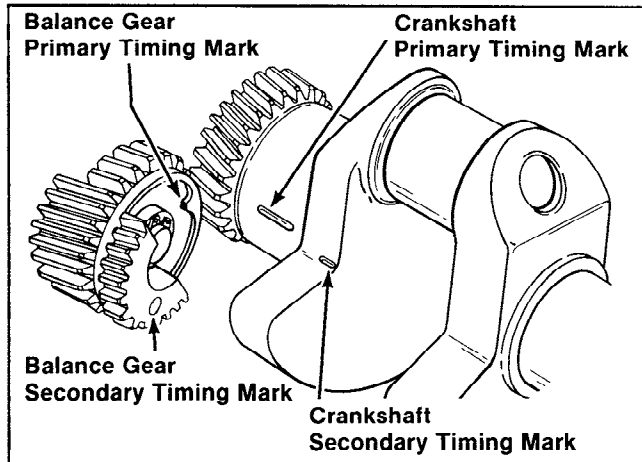

Figure 12-17. Timing Marks On Balance Gear And Crankshaft.
1. Lubricate the crankshaft rear bearing surface. Insert the PTO end of crankshaft through rear bearing. Align the primary timing mark on crankshaft with the primary timing mark on upper balance gear. Refer to Figure 12-17. Press the crankshaft into rear bearing until the crankgear just starts to mesh (about 1/16") with the center ring of balance gear teeth.
- The primary mark on crankshaft should align with the primary timing mark on upper balance gear. Refer to Figure 12-17.